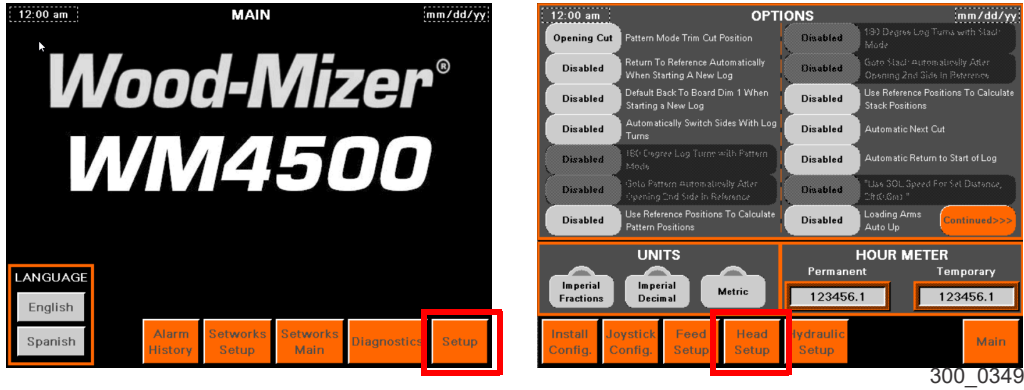

FIG. 4-29
See Figure 4-29.
1. From the Main screen press the Setup button. (See Figure 4-29.)
2. On the Setup screen press the Head Setup button. (See Figure 4-29.)